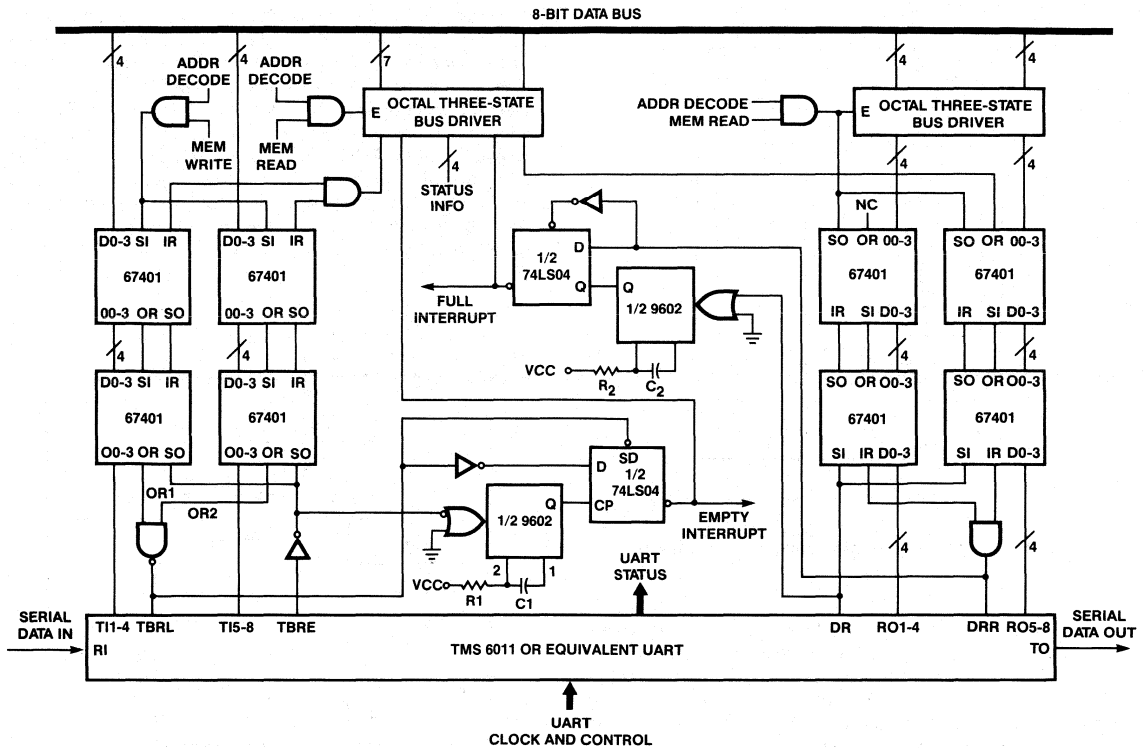
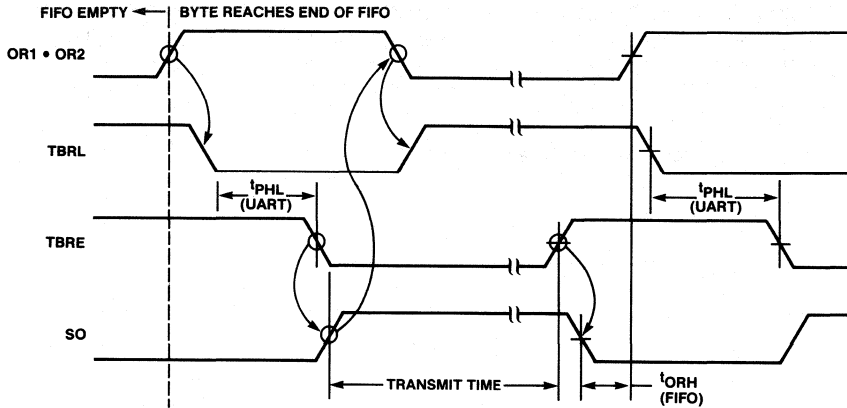
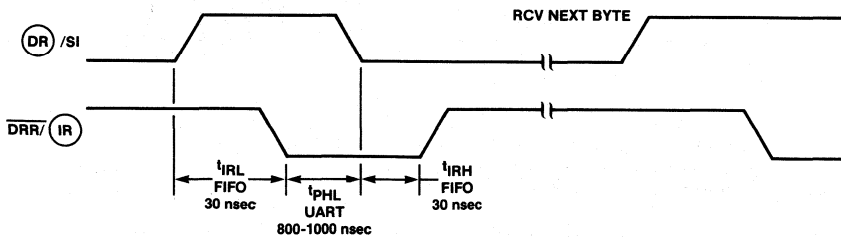

Figure 21. UART Data Buffer Logic for XMIT and RCV Using 67401 FIFOs
Figure 22. Timing Diagram, Transmit Buffer Operation
Figure 23. Timing Diagram, Receive Buffer Operation
accepts parallel data bytes from the computer's data bus, converts to serial data, and adds start, parity, and stop bits. The receiver section of the UART accepts serial data from a transmission line, modem, or terminal, validates the data by checking proper start, parity and stop bits, and converts the data to parallel bytes to be read by the computer on its data bus. In effect, the UART is a monolithic serial I/O port for the computer. Serial data rates up to 9600 baud are permitted by the UART, but much slower rates (110 to 300 baud) are commonly used to interface terminals. 110 baud corresponds to 10 bytes per second at the data bus. FIFOs can be used between the computer's data bus and the UART in both receive and transmit mode to match the low serial transmission rates to high speed bursts that make much more efficient use of the computer's time and memory space. A logic diagram for this interface is shown in Figure 21. Four 67401 FIFOs are connected in a series/parallel arrangement for both the transmit and the receive buffers. This arrangement permits a 128-byte buffer capacity for transmit and 128 bytes for receive. The buffers can be expanded easily in both width and length to accommodate different computers or greater buffer capacity.
The interface shown in Figure 21 allows the computer to write bursts of up to 128 bytes at the maximum data rate of the computer into the 67401 FIFO array. The input ready signals are ANDed together and fed back through a status port to the computer data bus so that burst data may be written under program control as rapidly as the write program will allow. The UART reads the outputs of the FIFO array one byte at a time, adds start, stop and parity bits and serializes the data to the serial output at the desired transmission rate (assumed to be much slower than the input burst rate). Assuming that the FIFO array is initially empty, the operation proceeds in accordance with the timing diagram in Figure 22. When the first parallel byte reaches the output of the buffer, the Output Ready lines go high. When both OR1 and OR2 have gone high, the NAND gate drives the UART's Transmit Buffer Register Load (TBRL) signal low. After the tPHL delay in the UART, the Transmit Buffer Register Empty (TBRE) signal goes LOW, causing the UART to
In many applications of the 67401 FIFO it is necessary to determine when the transmit buffer is empty or the receive buffer is full. The logic required to provide both these signals is shown in Figure 21.
The receive buffer logic is shown in the right hand portion of Figure 21 and the timing diagram is shown in Figure 23. The UART receives serial data with start, stop, and parity bits, evaluates parity, and converts the data to parallel bytes to be stored in the FIFO at the slow or erratic receive rate. The Data Ready (DR) signal of the UART is tied to SI on the two FIFOs and the two IR lines are ANDed together to drive the Data Ready Reset (DRR) line of the UART. When the FIFO is ready to accept a byte of data from the UART, the AND of the two IR signals holds DRR HIGH. If the UART has a new byte, it sets DR HIGH, driving SI HIGH to enter the new data into the input register of the FIFOs. After the t_{IRL} delay, IR goes LOW driving DRR LOW. After the t_{PHL} delay in the UART, DR goes LOW driving SI LOW. If the FIFO is not full, IR returns HIGH after t_{IRH} indicating to the UART that the FIFO